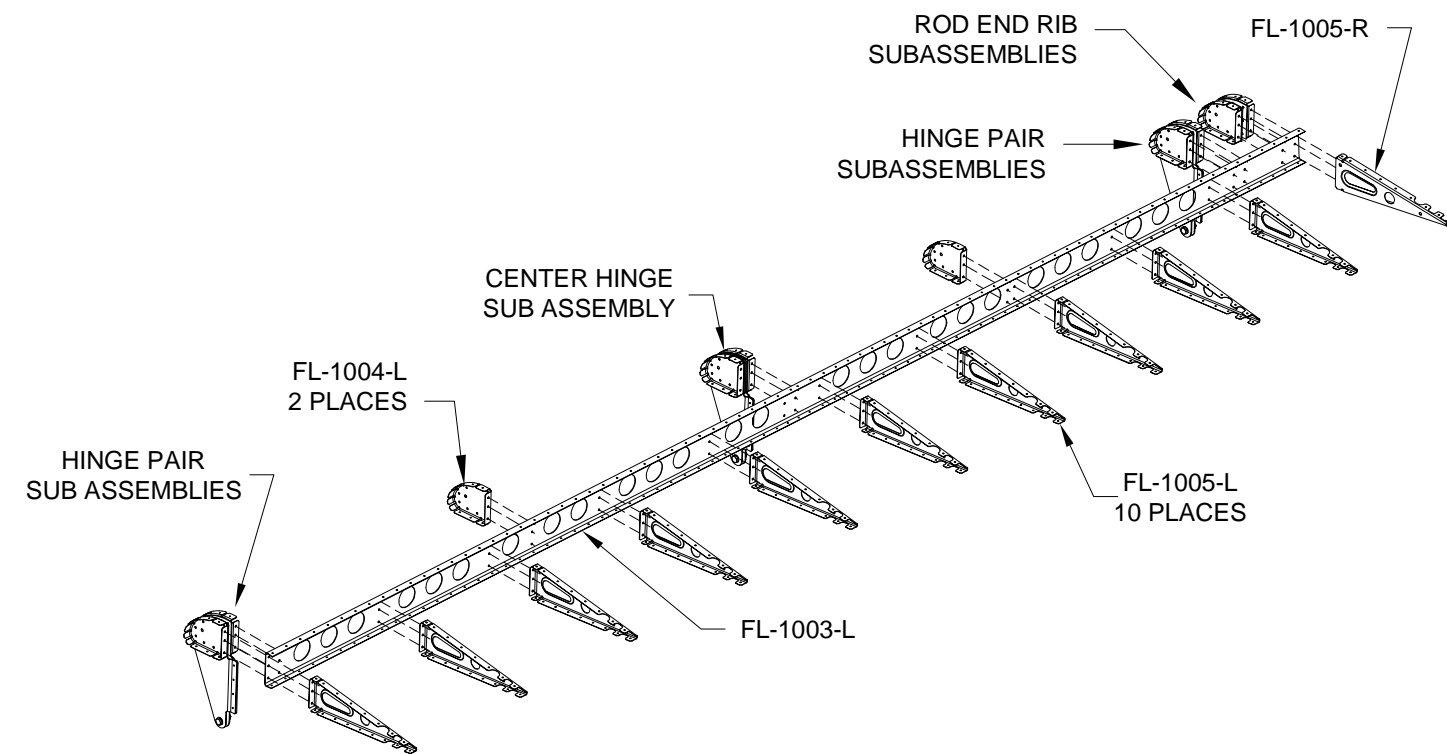

FIGURE 1: RIVETING RIBS AND SUB ASSEMBLIES
Step 1: Using AN470AD4-4 rivets, rivet the FL-1004-L Nose Ribs, FL-1005-L and FL-1005-R Main Ribs, rod end rib subassemblies, hinge pair subassemblies, and center hinge subassembly to the FL-1003-L Spar web as shown in Figure 1. The nose and main ribs on each end of the spar share rivets. Remove the hardware from all of the hinge brackets.